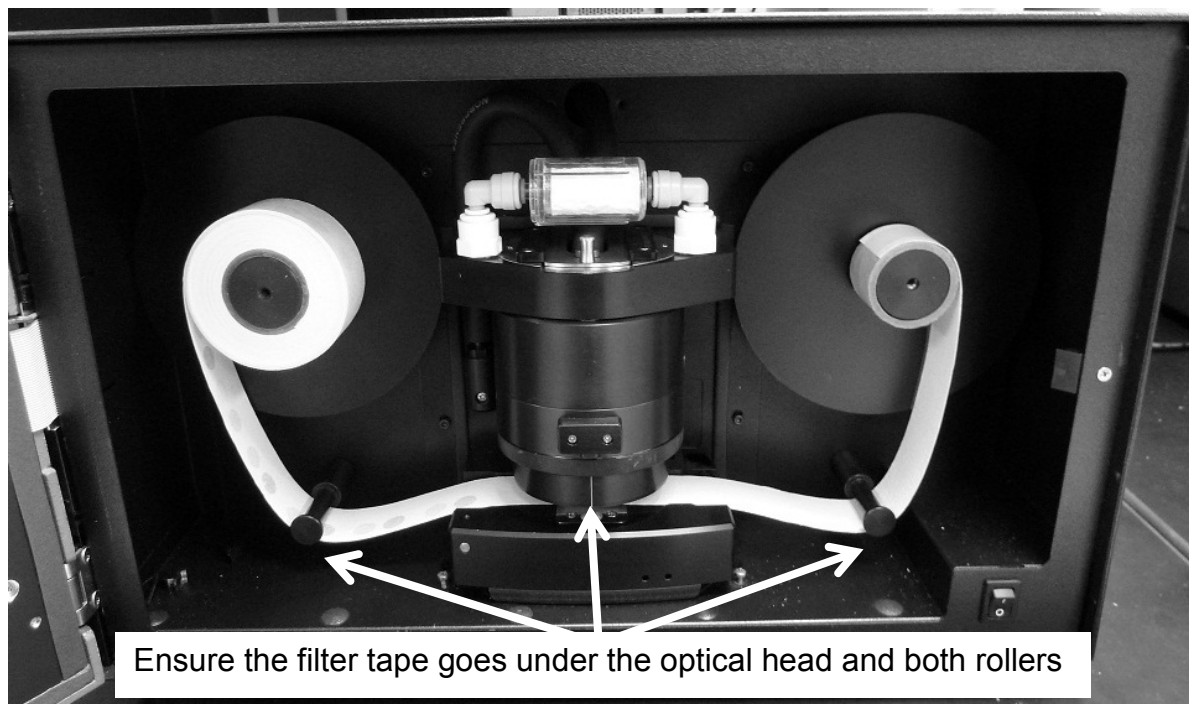

Figure 7
- 8.) Install the new tape back into the M633. Make sure that the tape goes under the optical head assembly and the two rollers. (Figure 7)